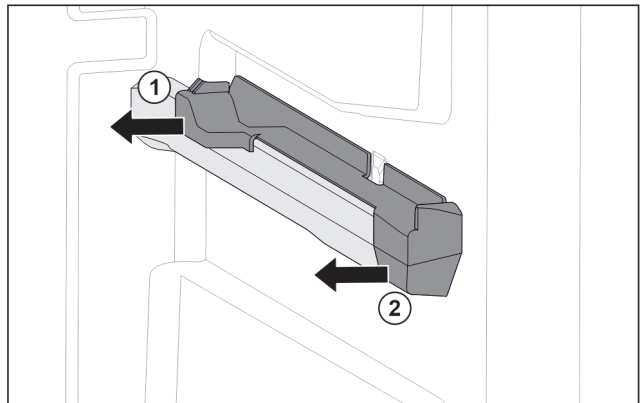

Fig. 103 Attachment on the right moulded rib
- ▶ Pull off attachment at the back sideways. Fig. 103 (1)
- ▶ Pull off attachment at the front sideways. Fig. 103 (2)